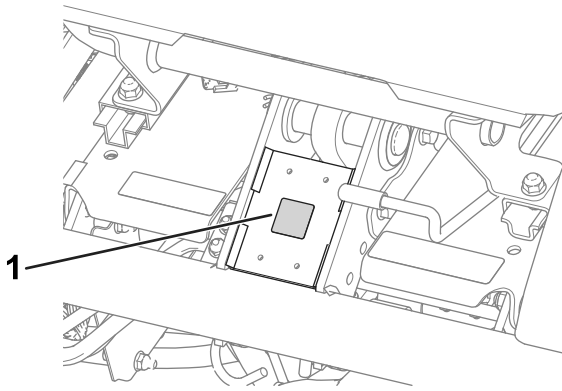

Figure 8
- Apply the CE mark decal to the frame under the front of the seat (Figure 8).